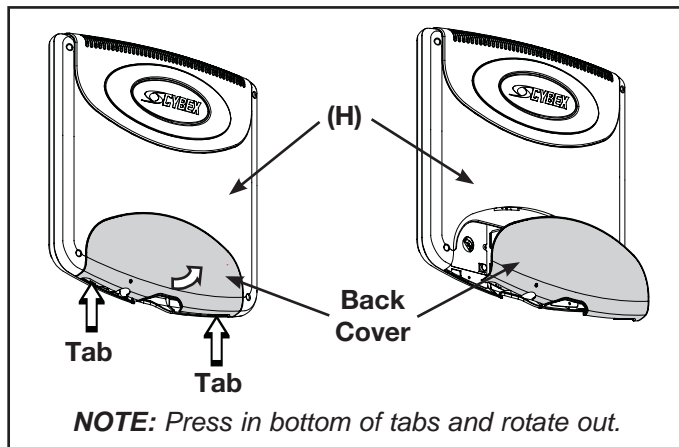

Figure 22
- A. Locate monitor (H), four mounting screws (K), four lock washers (L) and four flat washers (M).
- B. Remove the back cover from monitor (H) by pressing the bottom tabs of the cover in and rotating out. See Figure 22.